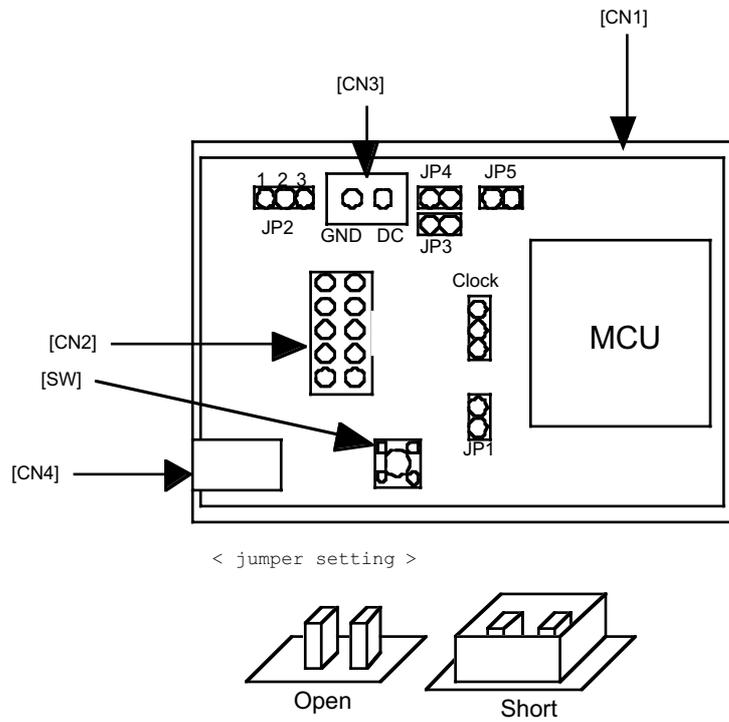

Figure 8-4. Location of each part of MSA0652
Figure 8-4 shows the location of each part of MSA0652 G01/G02.
*) Short is to do 1-2 (Figure 8-4) when supplying a power supply from the CN3.
Short is to do 2-3 (Figure 8-4) when supplying a power supply from the CN4.